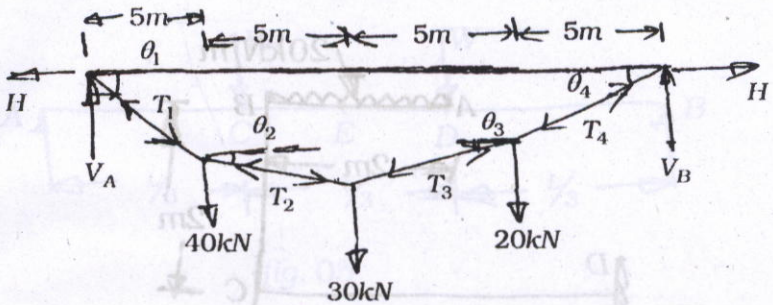

fig. 02
2. A light cable is supported at two points  $20 \text{ m}$  apart which are at the same level. The cable supports three concentrated load as shown in fig. 02. The deflection at first point is found to be  $0.8 \text{ m}$ . Determine the tension in